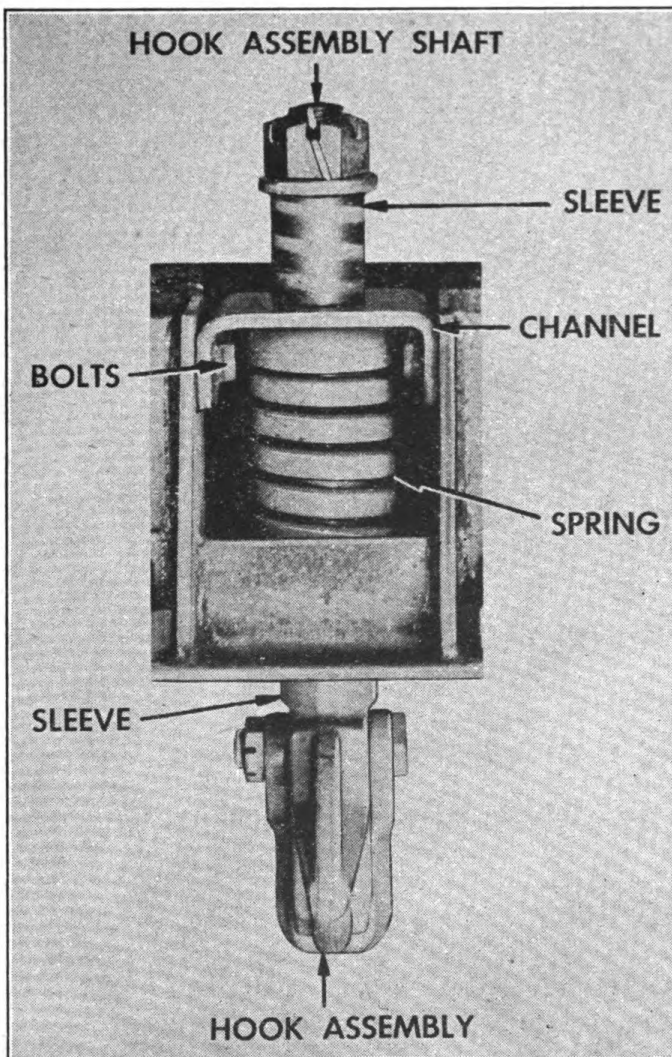

FIGURE 67. PINTLE HOOK.
1. REMOVAL (Fig. 67).—*a.* The pintle hook is bolted to a mounting plate at rear of trailer. By removing the nut and washer from hook shaft, the hook assembly can be pulled out of sleeves and spring which are held within the box section.
4. PINTLE HOOK SPRING AND SLEEVE, REMOVAL (Fig. 67).